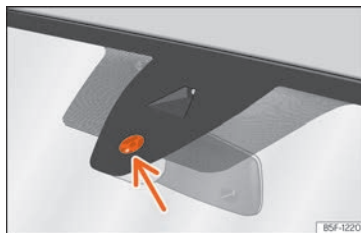

Fig. 108 Rain sensor sensitive surface
Possible causes of faults and mistaken readings on the sensitive surface » » » Fig. 108 of the rain sensor include:
- Regularly clean the sensitive surface of the rain sensor » Fig. 108 (arrow) and check for possible damage to the wiper blades.